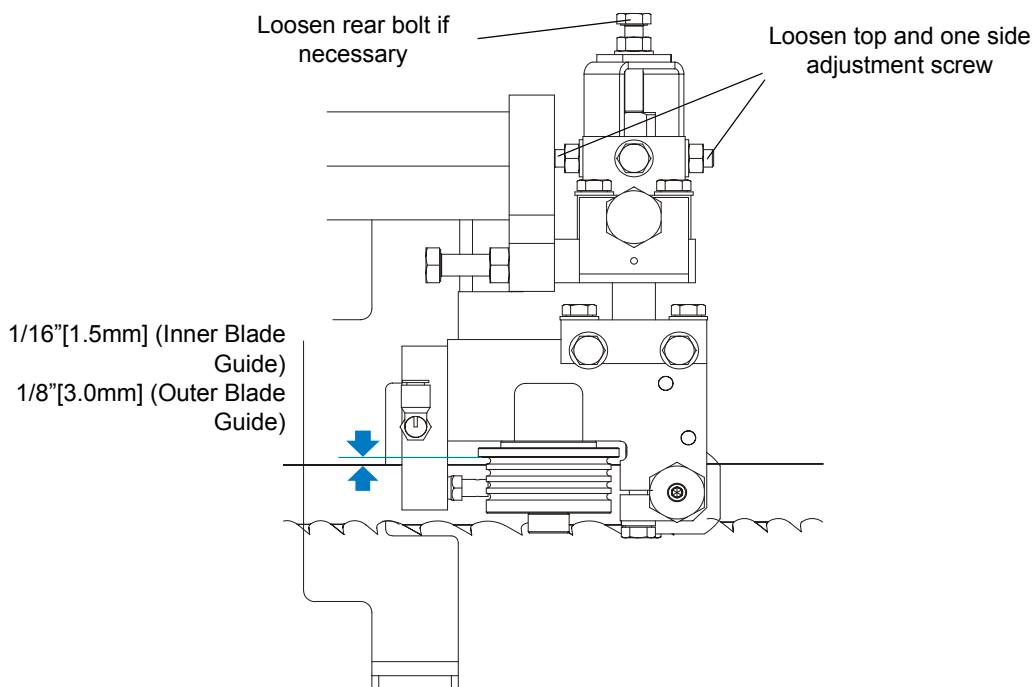

FIG. 5-34
**See Figure 5-34.** Loosen the top and one side screw shown and rear adjusting bolt if necessary. Tap the blade guide forward or backward until properly positioned. Retighten the screws and jam nuts.